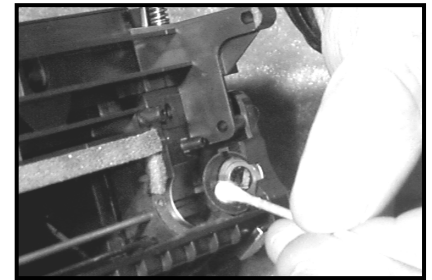

Figure 15
- Clean the bias charge contact with a cotton swab and alcohol (fig. 15). At this time, fill the hopper with toner through the mag roller slot or. If you are going to split and seal the toner hopper, proceed to the hopper sealing section.
- Re-install the doctor blade and secure with two (2) screws. Re-install the mag sleeve (make sure you replace the nylon brackets and bushings on each side. **Note:** Both ends of the mag roller are "keyed" and must be in the proper position while reinstalling it. Once the mag sleeve and all peripherals are in place, position the end cap on the left side and secure with two (2) screws.